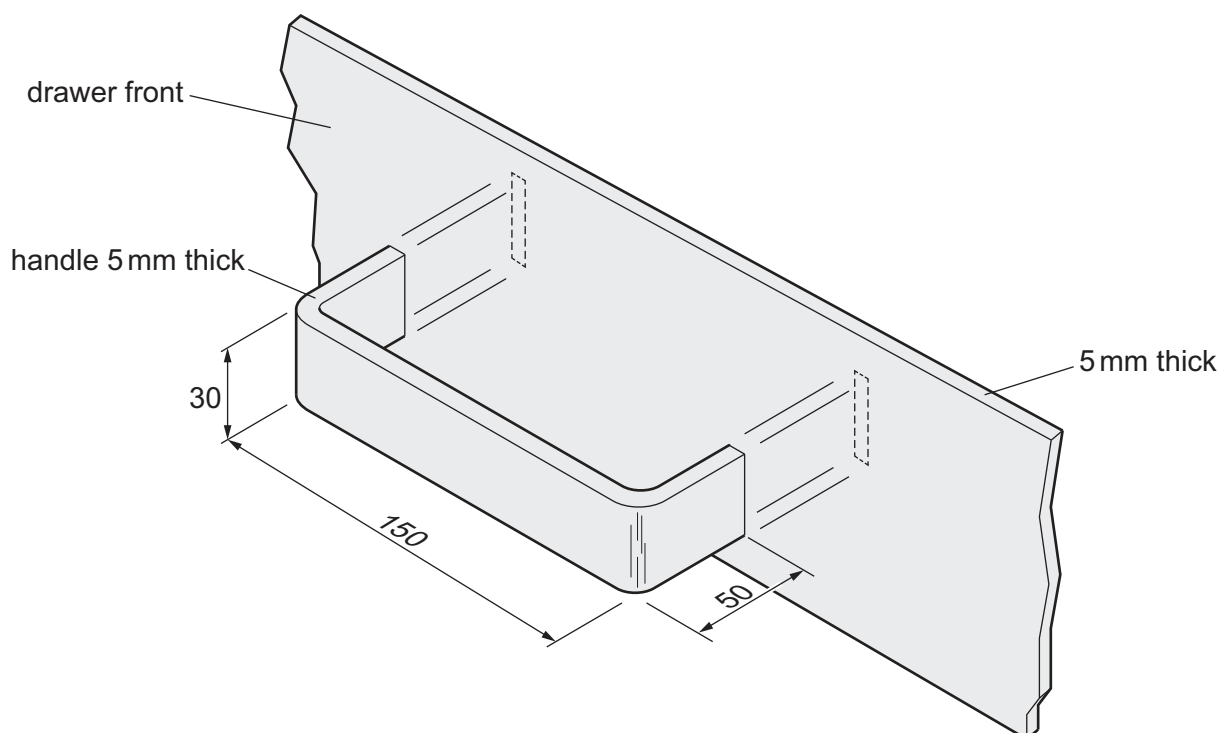

Figure 10.1
- 10 Figure 10.1 shows a handle made from 5 mm thick acrylic that will be fitted to the front of a small drawer, also made from 5 mm thick acrylic.